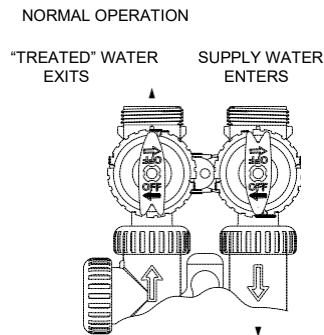

Figure 1
1. Normal Operation Position: The inlet and outlet handles point in the direction of flow indicated by the engraved arrows on the control valve. Water flows through the control valve for normal operation of a water softener or filter. During the regeneration cycle this position provides regeneration water to the unit, while also providing untreated water to the distribution system. (See Figure 1)